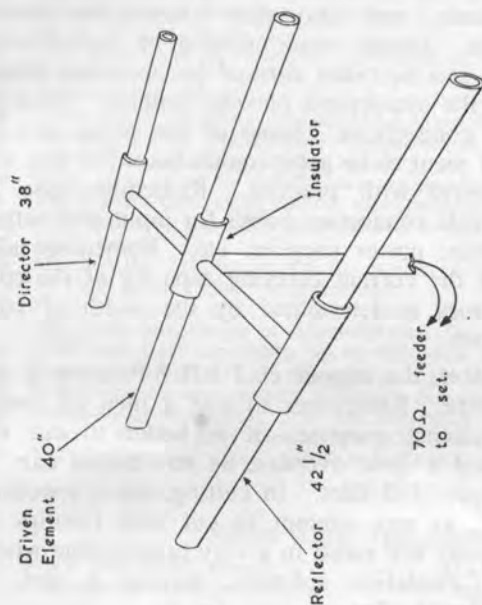

Fig. 18.5 136 Mc/s. aerial.
(5) AERIAL FOR 136 MC/S. SATELLITE TRACKING (see Fig. 18-5)